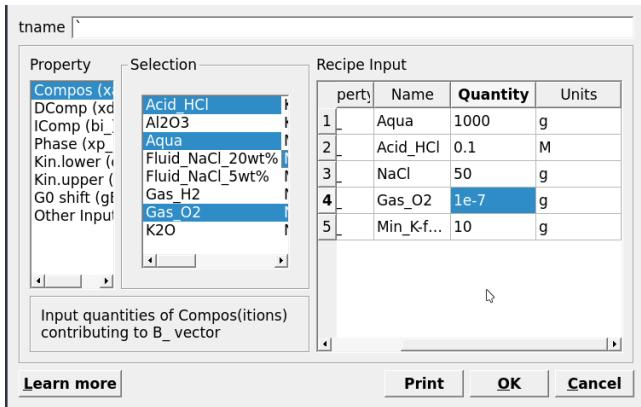

Figure 2.3: System recipe dialog.
- In the **Open recipe dialog**, which can also be found in Panel 1, add phases, quantity and units as shown in Figure 2.3; Aqua (1000 g), HCl (0.1 M), NaCl (50 g), O_{2(g)} (1e-7) and K-feldspar (10 g).